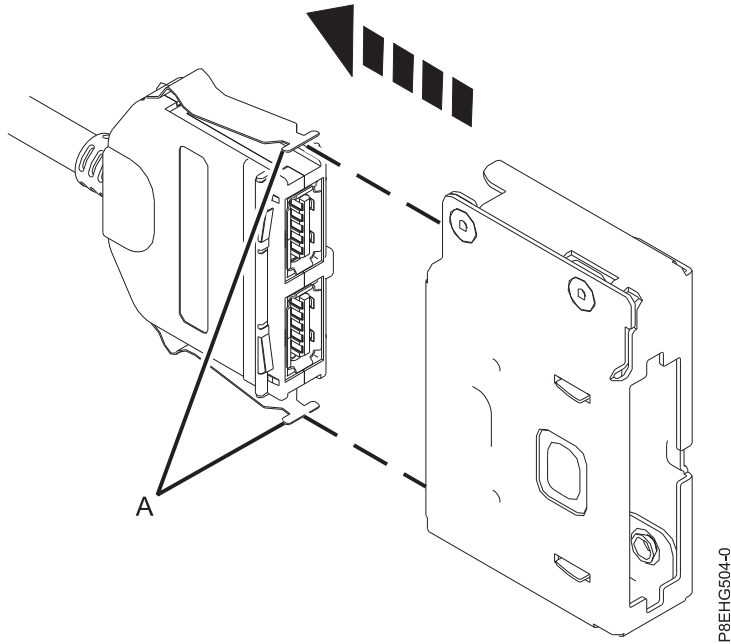

Figure 12. Installing the housing over the cable
- a. Press down on latches (A) of the front USB cable and slide the housing over the cable connector until it latches, as shown in Figure 12 on page 13.